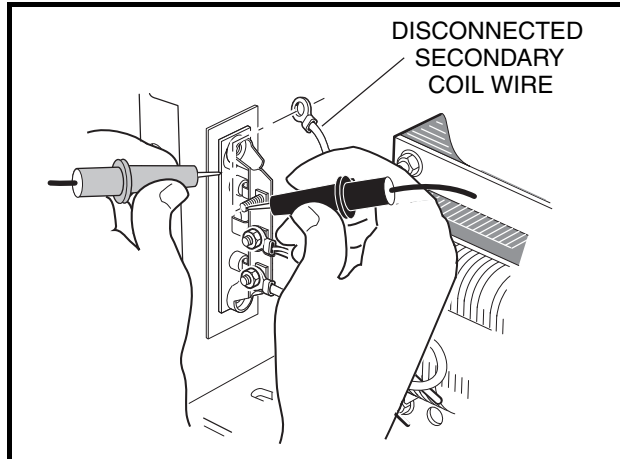

Figure 9-9 Diode Test
4. Disconnect one transformer secondary coil wire from the diode terminal (**Figure 9-9, Page 9-14**).
5. Using a low voltage continuity tester or multimeter set to the diode test function, connect the red (+) test probe to the diode mounting plate and the black (-) test probe to a diode terminal and note the reading (**Figure 9-9, Page 9-14**).